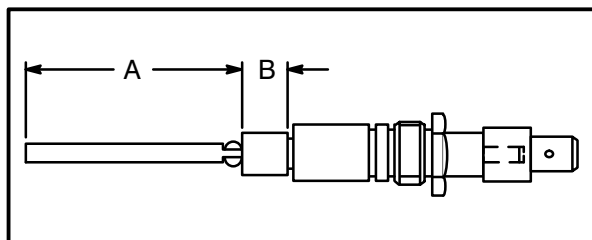

FIGURE 2
3. Check the length of dimension B to be sure the correct replacement probe is being used. See FIGURE 2.